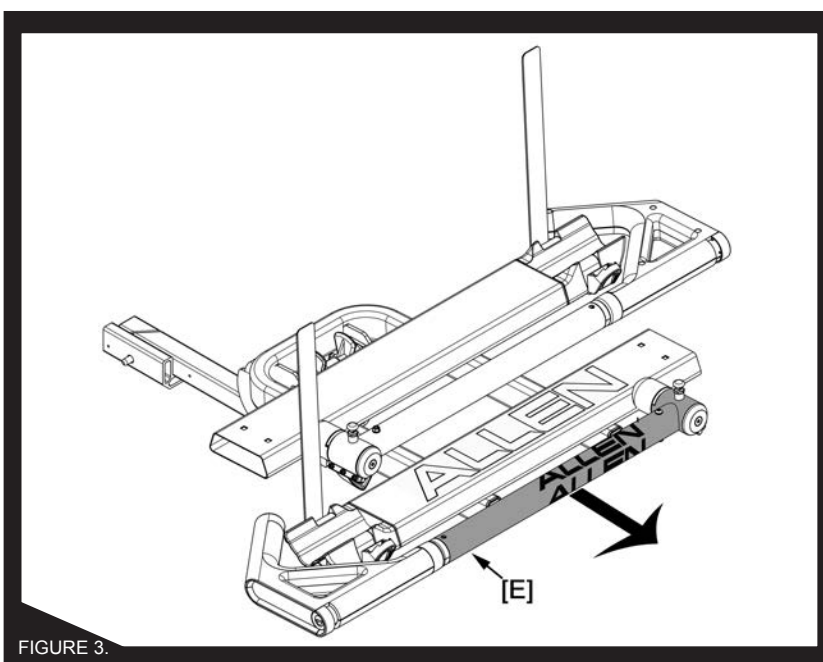

FIGURE 3.
IMPORTANT! As shown in Figure 3, Bike Support should be installed with Spar Arm [E] toward the open end of the U Support
2. Rotate Bicycle Spar Arm up until hook rest 1" or less from brakes or front fork - see Fig 3